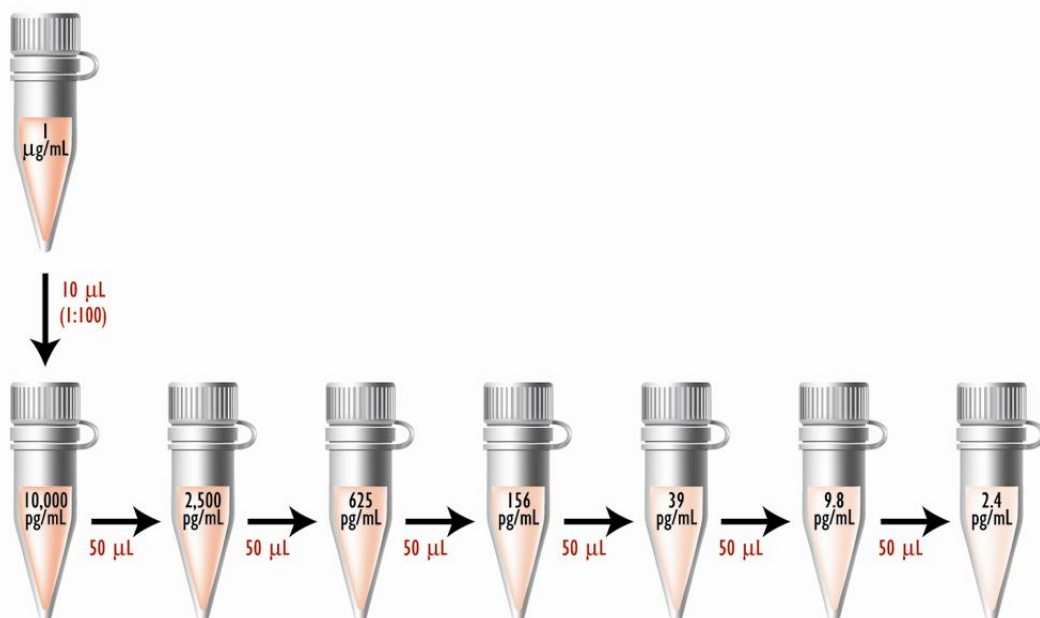

Figure 3. Calibration curve preparation from stock solution (1 µg/mL).
- 2. *Addition of Sample or Calibrator:*** Dispense 25 μ L of each Calibrator or Sample Solution into a separate well of the MSD plate. Figure 3 illustrates one plate arrangement of calibrator solutions that can be used to evaluate the performance of the assay. Seal the plate with an adhesive plate seal and incubate for 1 to 2 hours with vigorous shaking (300-1000 rpm) at room temperature. In general, shaking the plate results in better mixing and more rapid binding of the sample to the capture antibodies. If a protocol without shaking is preferred, a longer incubation time (4 hours or longer) may be required to achieve the same sensitivity.